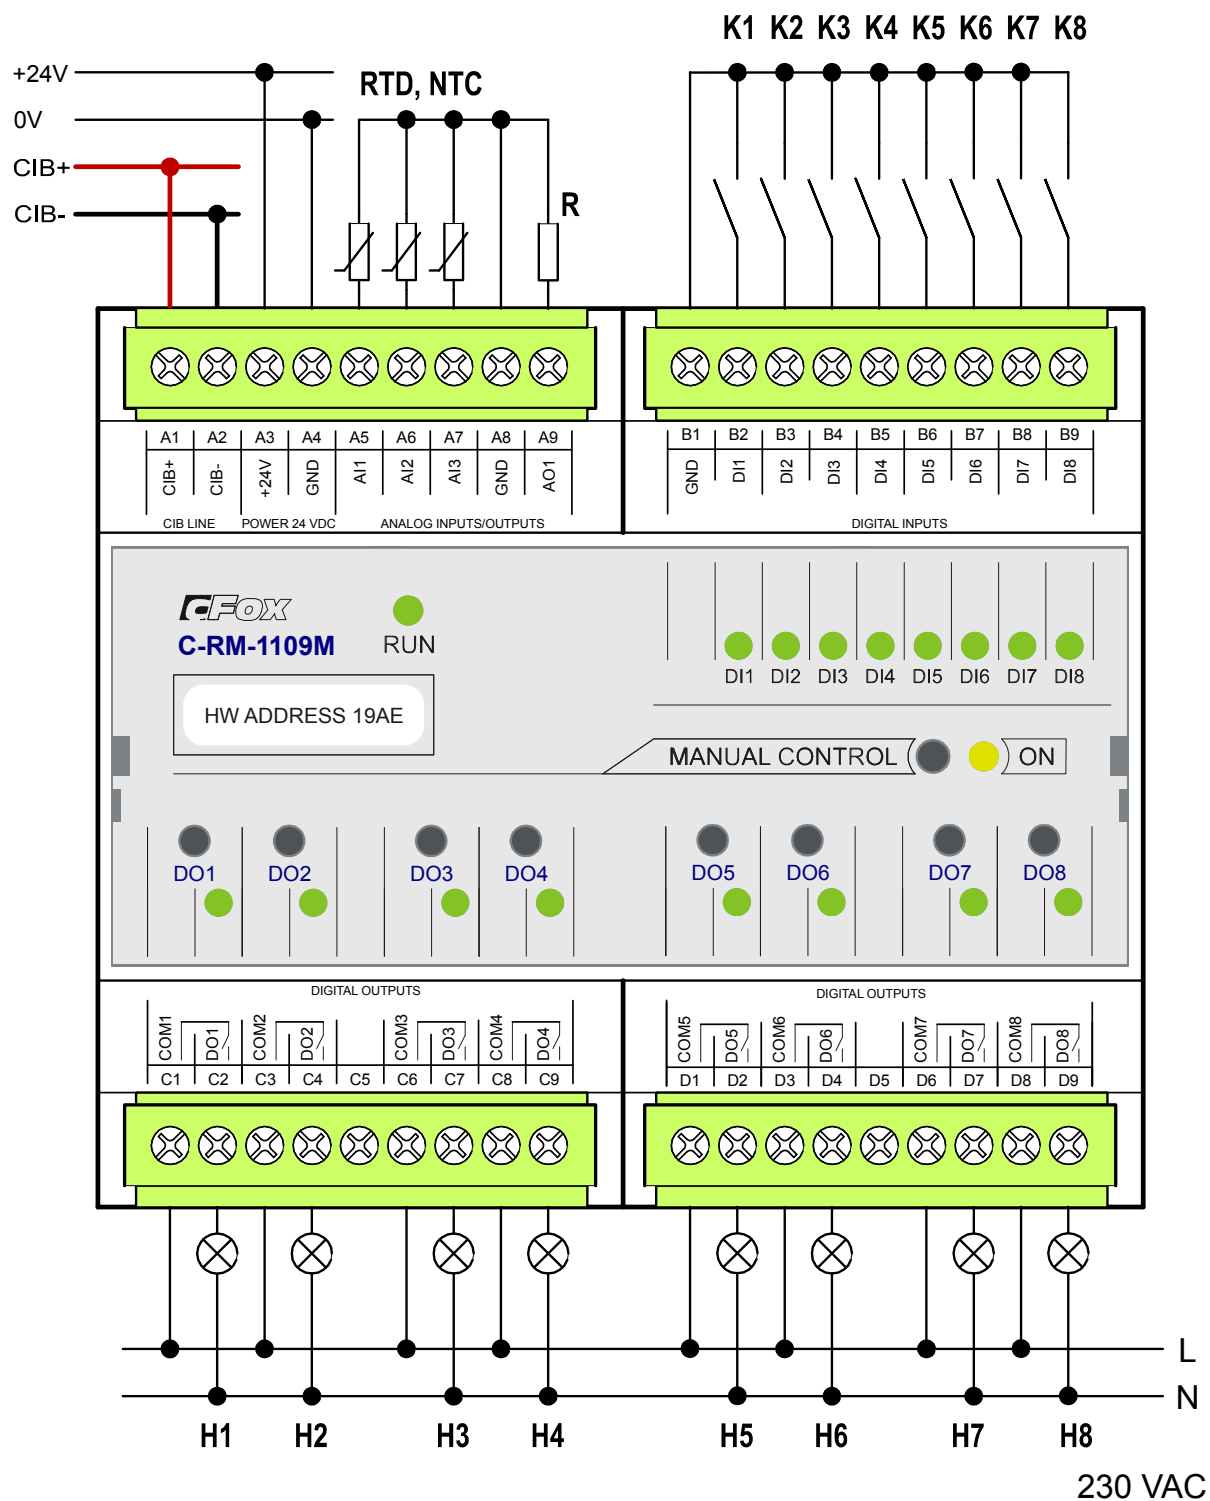

Fig. 14.1.28.1 An example of connecting the C-RM-1109M module.
1. The GND and CIB- terminals are interconnected, see the internal wiring in Fig. 14.1.28.2